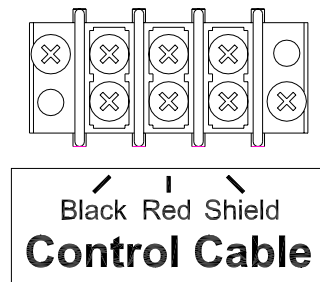

Figure 7 Control Cable Wiring Diagram
3. Connect the control cable to **Control Cable** terminal block on the junction chassis according to figure 7.